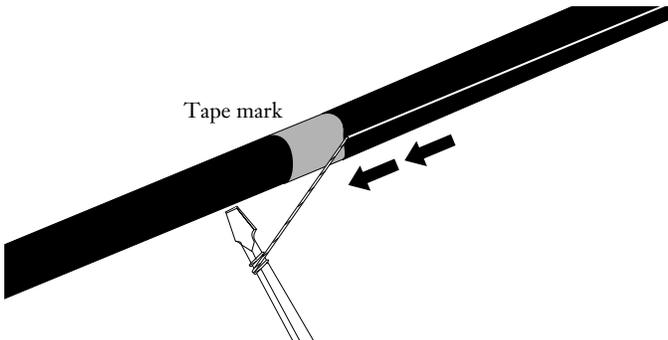

Figure 7
5.10 Pull the rip cord through the sheath to the tape wrap (Figure 7).